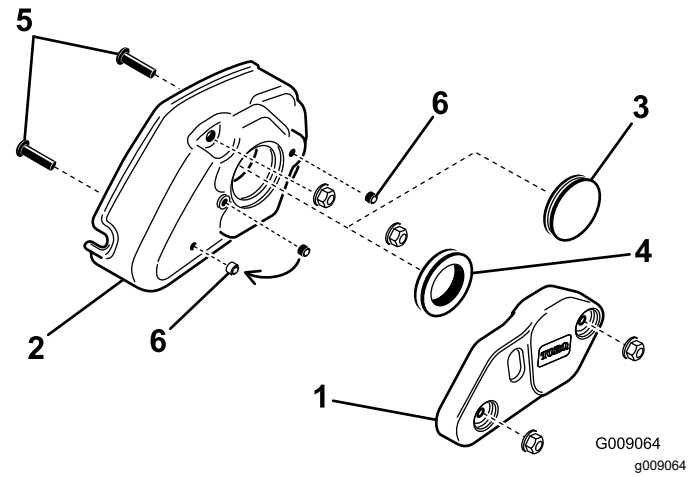

Figure 21
2. Remove the 2 flange nuts (5/16 inch) securing the groomer weight to the groomer cover and remove the weight (Figure 21).
3. Remove the solid grommet from the cover and replace it with the rubber grommet ring (Figure 21).
4. Remove the 2 screws (5/16 x 1-1/4 inch) threaded into the cover (Figure 21).
5. Remove the set screw from the center hole in the groomer cover (Figure 21).